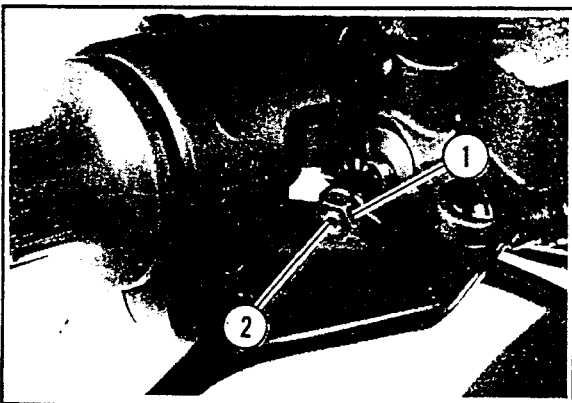

Figure 5-76. Front Brake Control Lever Free Play Adjustment
1. See Figure 5-76. Loosen jam nut (1).
2. Turn adjusting screw (2) until lever is comfortable for rider.